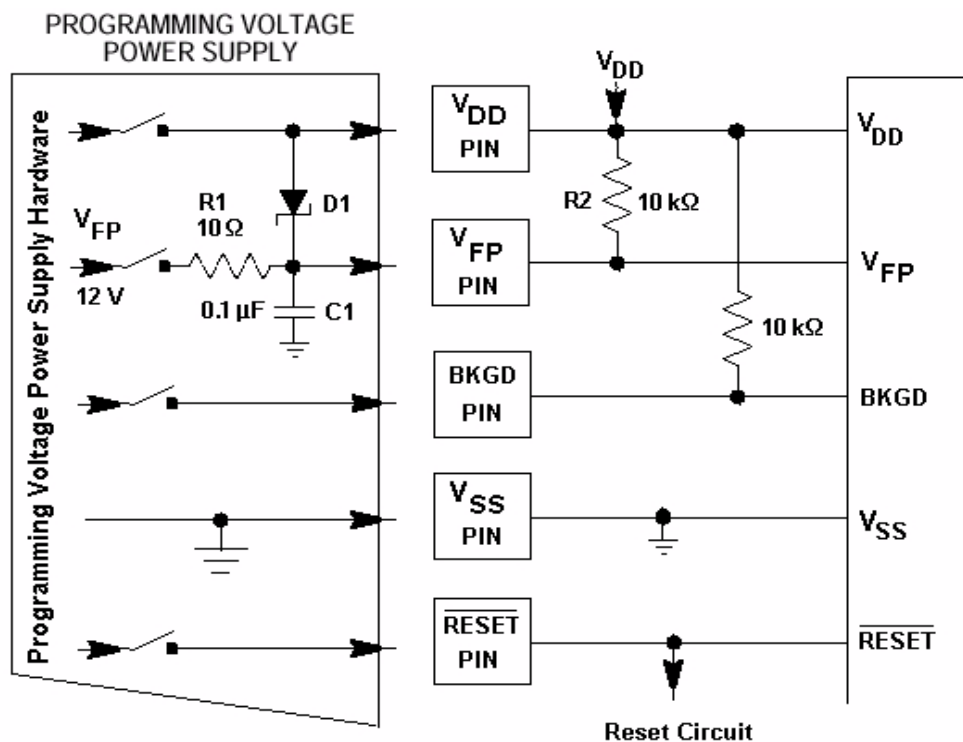

Figure 13.  $V_{FP}$  Supplied from External Source through BDM Interface
Another option to placing a dc-dc converter on the application board for in-circuit reprogramming is to supply  $V_{FP}$  from outside the target system. This can be achieved by using something similar to the circuit shown in **Figure 13**. This solution requires that the BDM (background debug mode) connections be made on the target board to allow for connection of a BDM-compliant debug tool, as well as a  $V_{FP}$  supply. Again, as long as the  $V_{FP}$  envelope rules are adhered to, this circuit will work well.
**NOTE:** The diode D1 shown in Figure 13 must have a forward bias drop of no greater than .35 volts to maintain the proper  $V_{FP}$  to  $V_{DD}$  voltage relationship at all times. Diodes such as the 1N5818 or 1N5819 will work and typically have even lower voltage drops at low current.